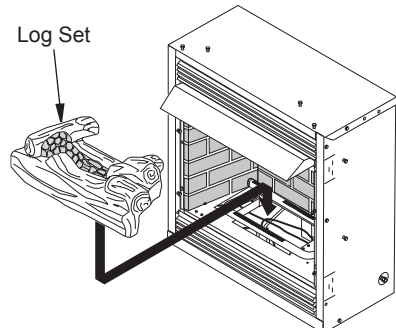

Figure 39 - Installing Log
1. Remove jumper wire from control valve (see Figure 39).
4. Remove log packaging material and discard. Gently place log over burner (see Figure 39). (Do not allow log to contact flame as this will create sooting.)